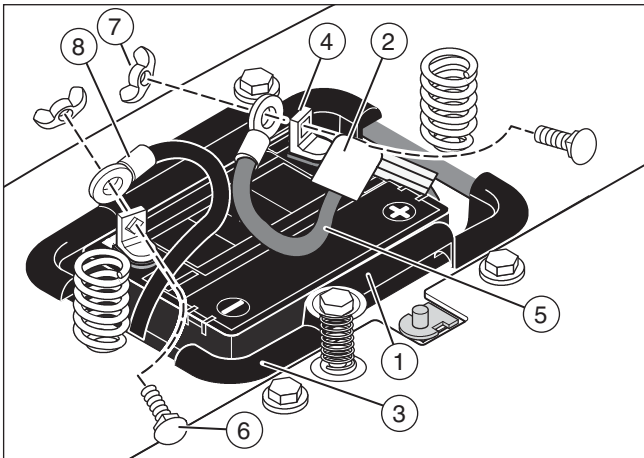

Figure 4
1. Check the top of the battery (1) for the location of the battery date (see **Figure 4**).
1. Remove the battery (1) and battery tray (3) (see **Figure 4**).
4. Install the battery (1) and battery tray (3). Make sure the positive (+) terminal (4) is on the left side.
1. Remove the protective caps from the battery terminals (see **Figure 4**).
2. Slide the terminal cover (2) on to the red cable (5). Fasten the red cable to the positive (+) terminal (4) with the fasteners (6) and (7).
3. Fasten the black cable (8) to the negative (-) terminal with the fasteners (6) and (7).